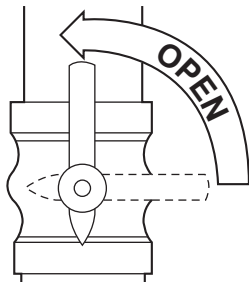

Fig. 12 - Open Valve
10. Open the external manual gas valve. See Fig. 12.